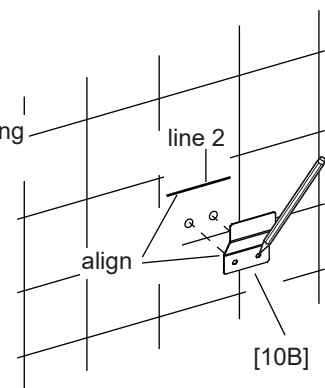

Fig 2.3
- 2-3** Position the **Bracket [10B]** on the wall with its lower corners aligned with line 2 and center with the center line between the outlets. Then mark the wall through the screw holes of the **Bracket [10B]**. (Fig 2.3)